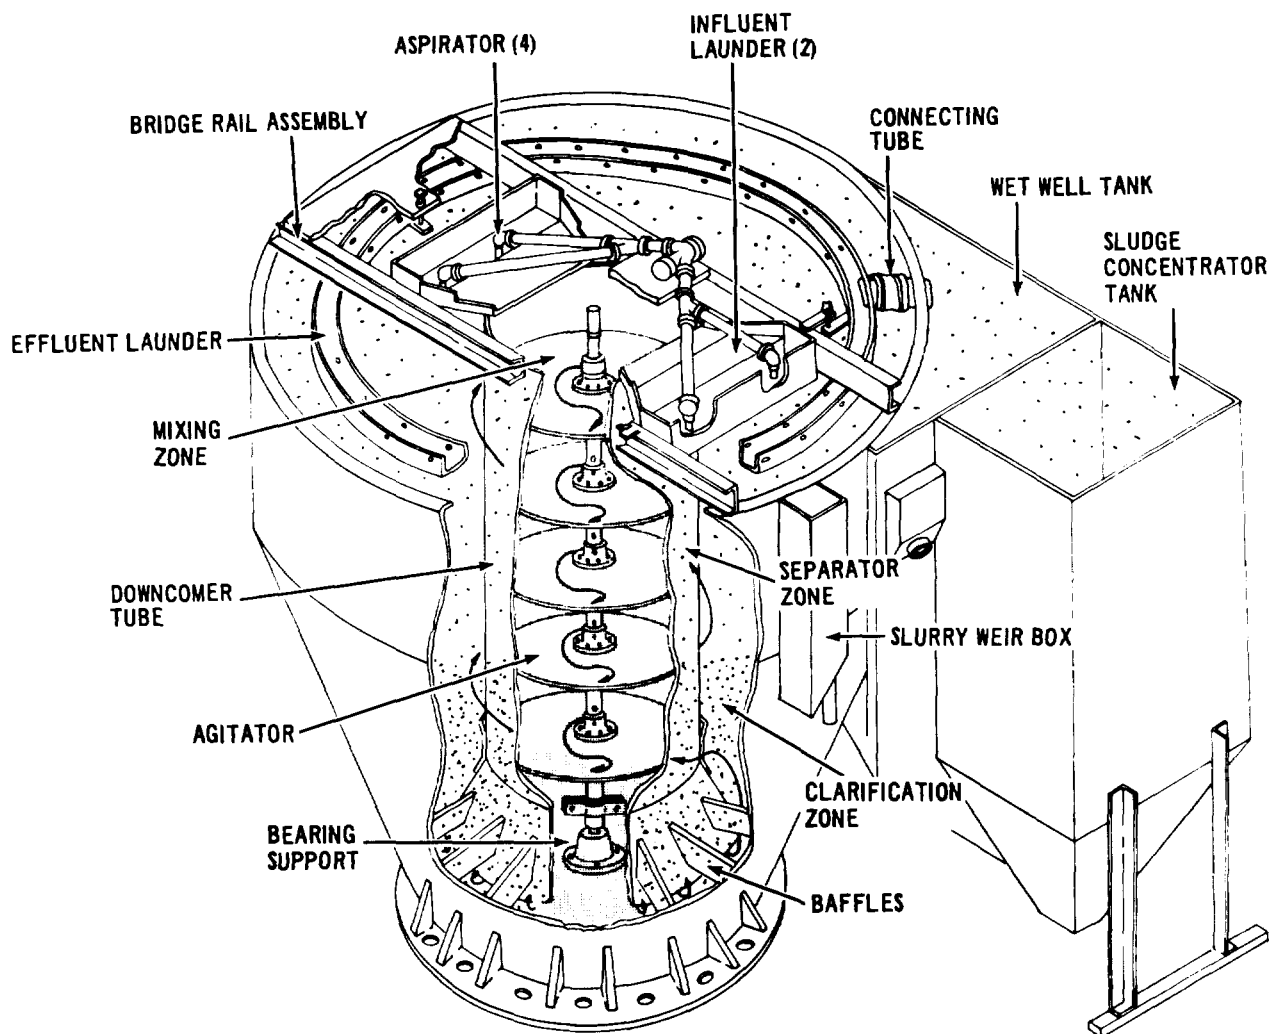

Figure 1-4. Cross Section of the Erdlator Assembly
(1) General. The erdlator assembly includes the agitator speed reducer and drive motor, supported by the bridge rail assembly (fig. 1-3). Other components of the erdlator assembly (fig. 1-4) are two influent launders, an effluent launder, wet well tank, sludge concentrator tank, slurry weir box, downcomer tube and the agitator shaft (with disks). It is mounted on a separate steel plate, attached to the van body floor. The erdlator assembly reduces the contents of the organic and suspended matter of the water, producing an effluent suitable for application to the diatomite filter.
(2) Erdlator tank. The erdlator tank is a circular, funnel-shaped unit of one-piece aluminum construction, with a capacity of approximately 530 gallons. A stub shaft and bearing support (fig. 1-4) for the agitator is mounted in the bottom of the tank. There is a baffle ring near the bottom, secured to the tank with a series of short baffles which support the downcomer tube. A draw-off port is located opposite the slurry weir box and another near the top which opens into the wet well. There are two drains, an upper one for partial draining and the lower one for complete draining. The erdlator tank serves as a separator which hydraulically separates the slurry blanket from the clear water in the upper section of the tank, in what is termed as the separator zone. It also serves as a clarifier, as the flow of coagulated water is deflected at the bottom of the tank and directed in an upward rotating direction into the clarification zone.
(3) In fluent launder. The two in fluent launders are constructed of aluminum and are attached to the bridge rail assembly (fig. 1-4). The raw water is introduced into the influent laun-
(7) *Slurry weir box.* The slurry weir box (fig. 1-4) is a small aluminum tank welded externally to the erdlator tank. It houses the draw-off port near the top of the erdlator and permits gravity flow of flocculent slurry from the erdlator tank to the sludge concentrate tank.
(2) *Chemical solution feeder.* The chemical solution feeder is constructed of material having anticorrosive resistance and is mounted to the first shelf of the chemical feed equipment frame. It consists of two diaphragm pumps operated from one electric motor by means of a gear reduction mechanism. The chemical solution feeder pumps ferric chloride and calcium hypochlorite solution from two chemical tanks into the mixing zone (fig. 1-4) of the erdlator tank.